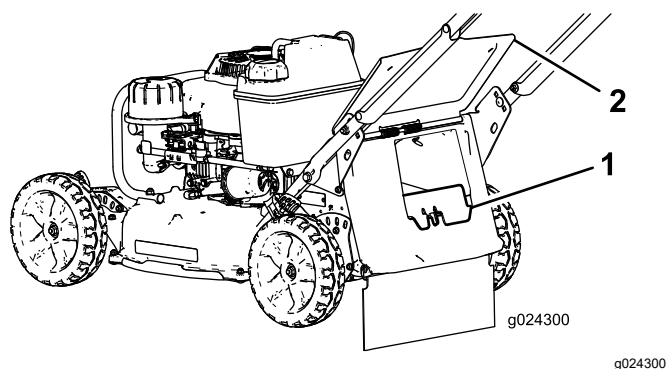

Figure 19
the rear-discharge chute until the latch locks into place (Figure 19).
1. Rear door 3. Notch (2)
2. Bag-rod end (2)
3. Remove the rear-discharge plug by pushing in the latch with your thumb and pulling the plug out from the machine (Figure 19).